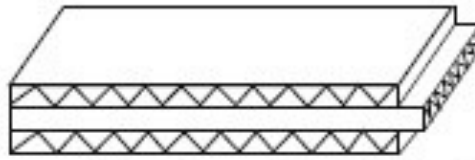

Fig. 3
- 3) A triple tray requires three trays glued together with the corrugated blueboard at right angles to adjacent layers for strength (Fig. 3).